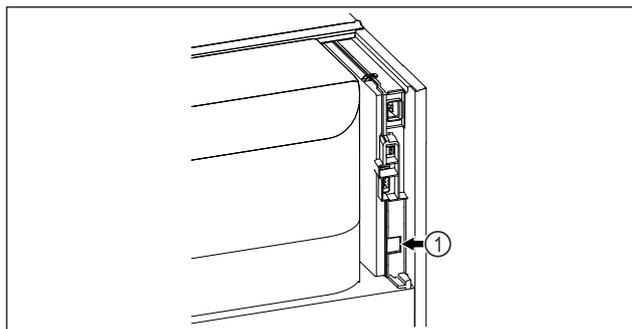

Fig. 77
- SmartModule *Fig. 77 (1)* is in use.